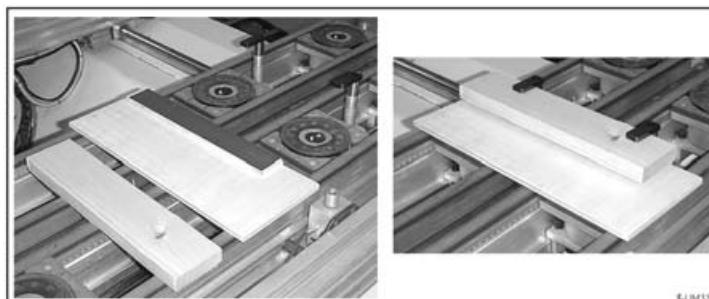

Fig. 3.11a
- place a discard panel between the work table and the piece to be worked; for greater friction on the contact surface, glue a sheet of sand paper to the discard panel (the panel may be already prepared as a spacer and may be used several times - see fig. 3.11a)